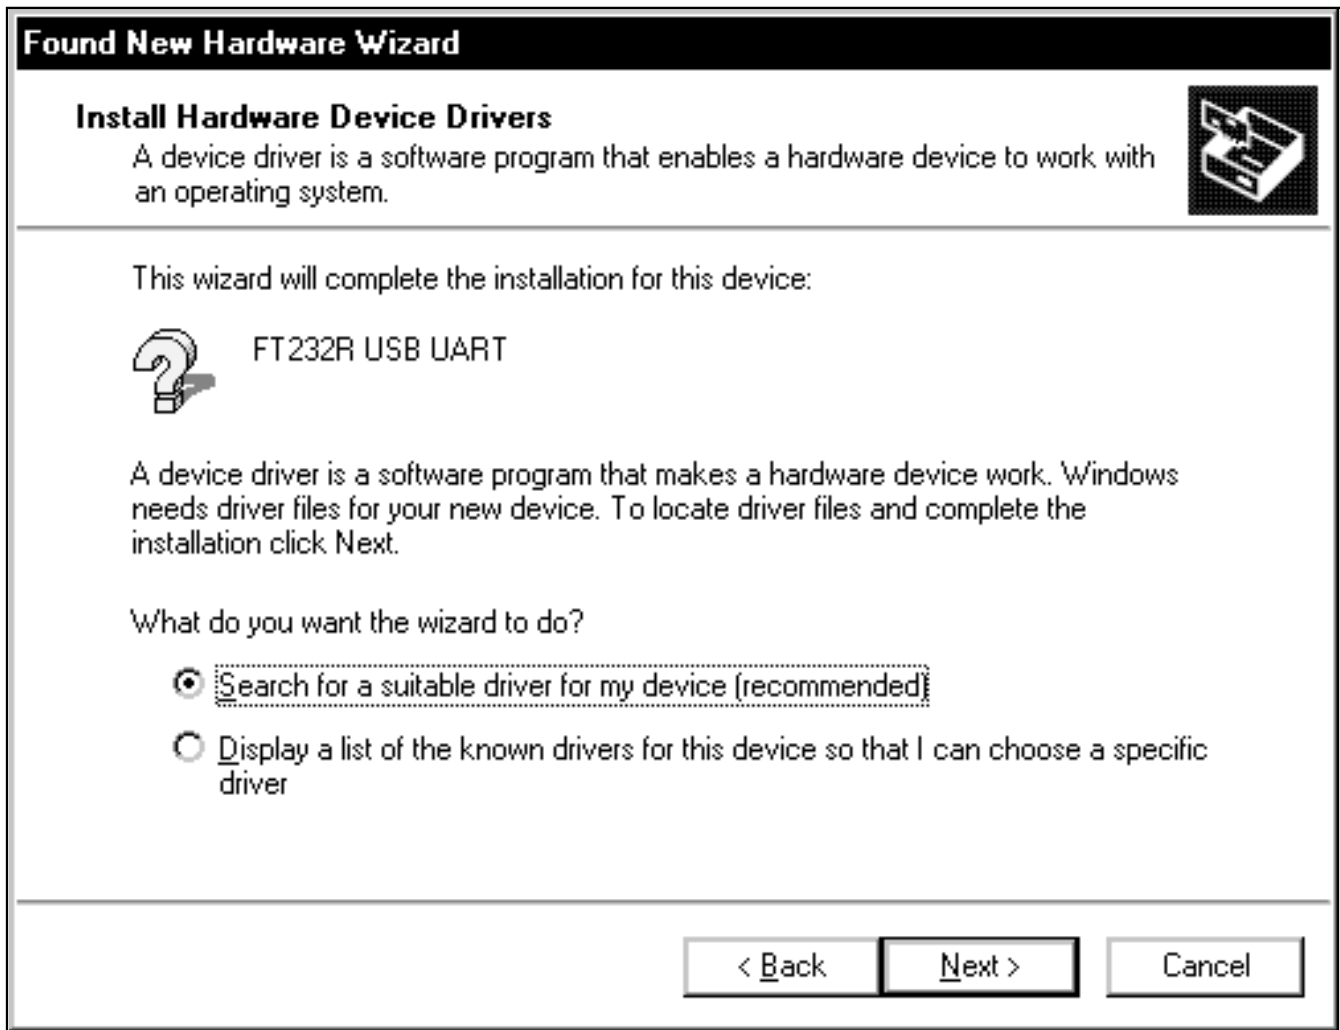

Figure 11. Windows 2000: **Found New Hardware Wizard | Install Hardware Device Drivers** Window
- 3) At the **Found New Hardware Wizard | Install Hardware Device Drivers** window (Figure 11), choose **Search for a suitable driver for my device (recommended)** and press the **Next** button when finished.